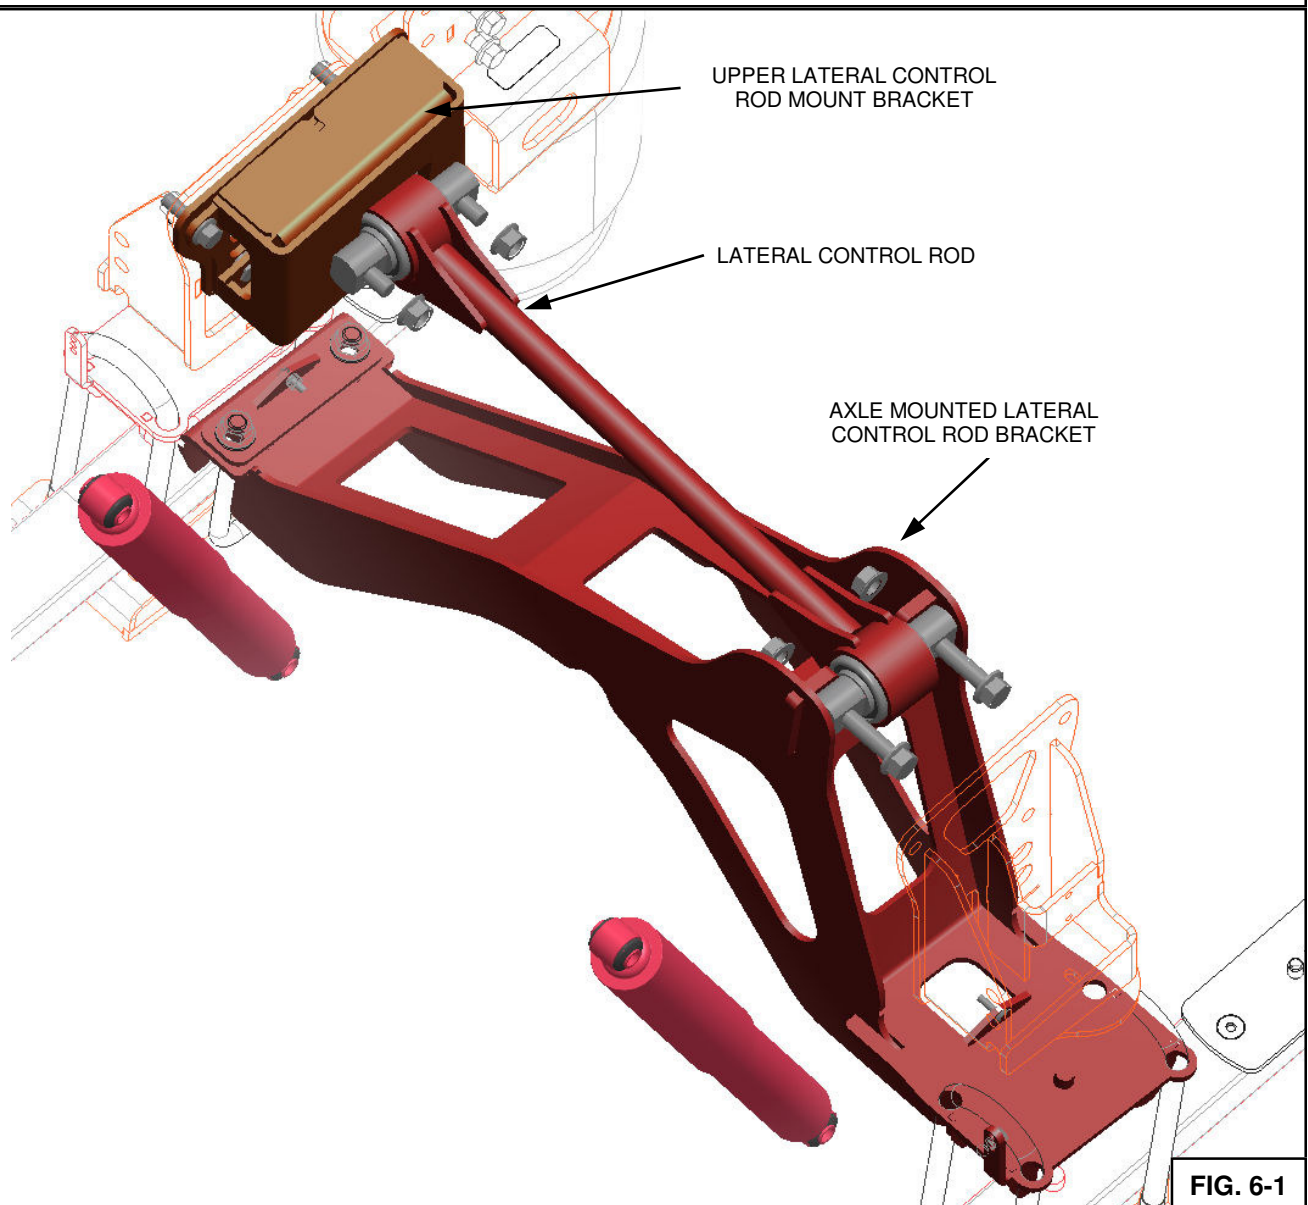

FIG. 6-1
1. Review Figure 6-1 & Parts List/Drawing (Section 11) to acquaint yourself with the various parts of the UltraRide suspension.
4. Loosely mount the LATERAL CONTROL ROD between the two sides using (4) 5/8 UNC BOLTS and (4) 5/8 UNC TOP LOCK NUTS. These fasteners will be torqued with others described in Section 7. See Figure 6-1 for details.